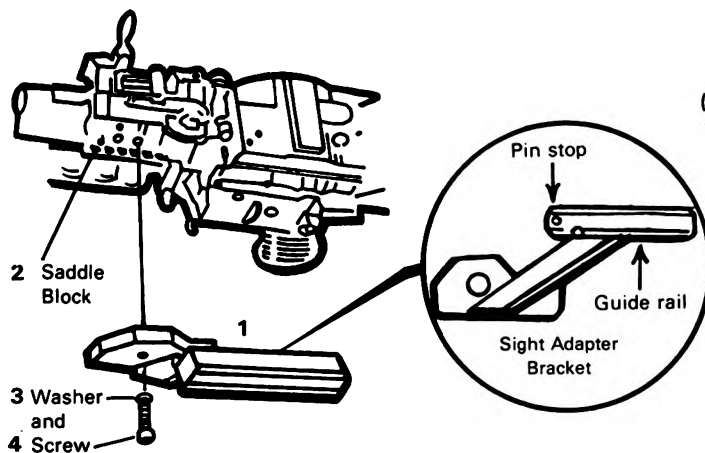

Figure 1B.
b. To install the receiver-mount assembly, see figure 1B.